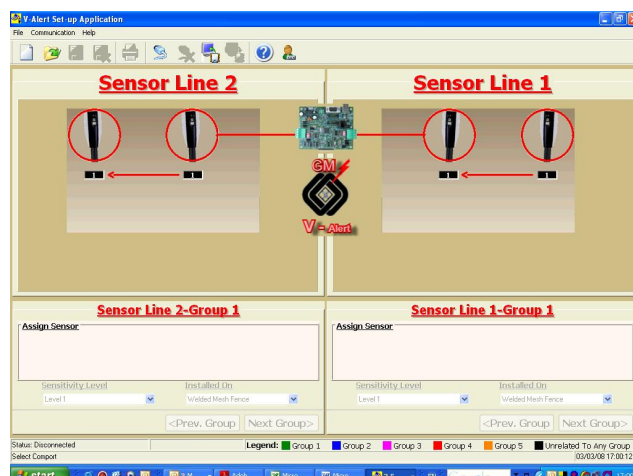

Figure 2: Main Screen
- 6.1. Installation of V-AlertComm Setting Manager will automatically create a V-Alert Icon on your desktop. Double clicking this icon will open the MAIN SCREEN of the V-AlertComm Setting Manager as shown in Figure 2 below.